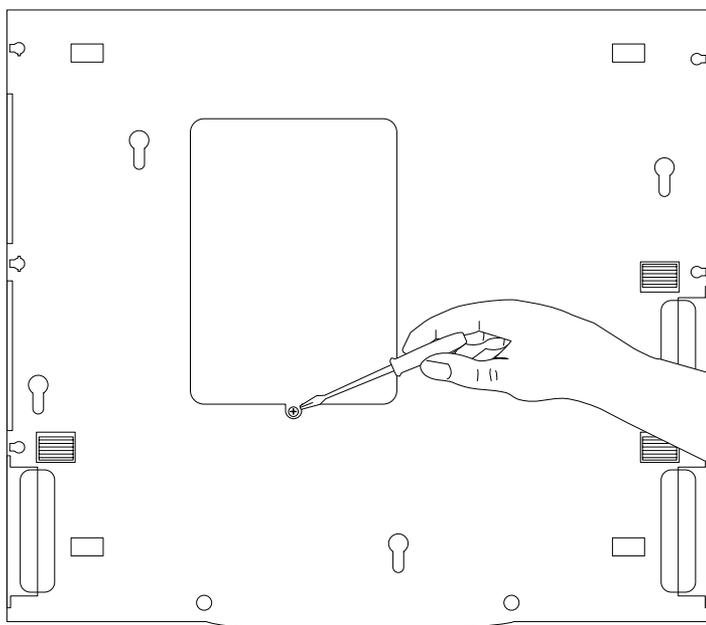

Figure 3-10 Removing the Memory Cover
4. Using a small Phillips screwdriver, remove the memory access cover as shown in Figure 3-10.